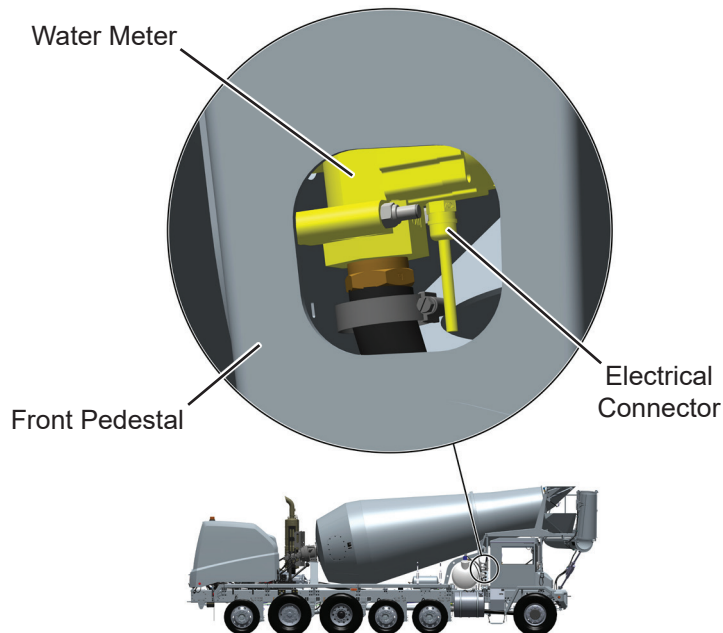

Figure 2
4. Locate water meter inside front roller pedestal and disconnect electrical connector from bottom of water meter. See Figure 2.